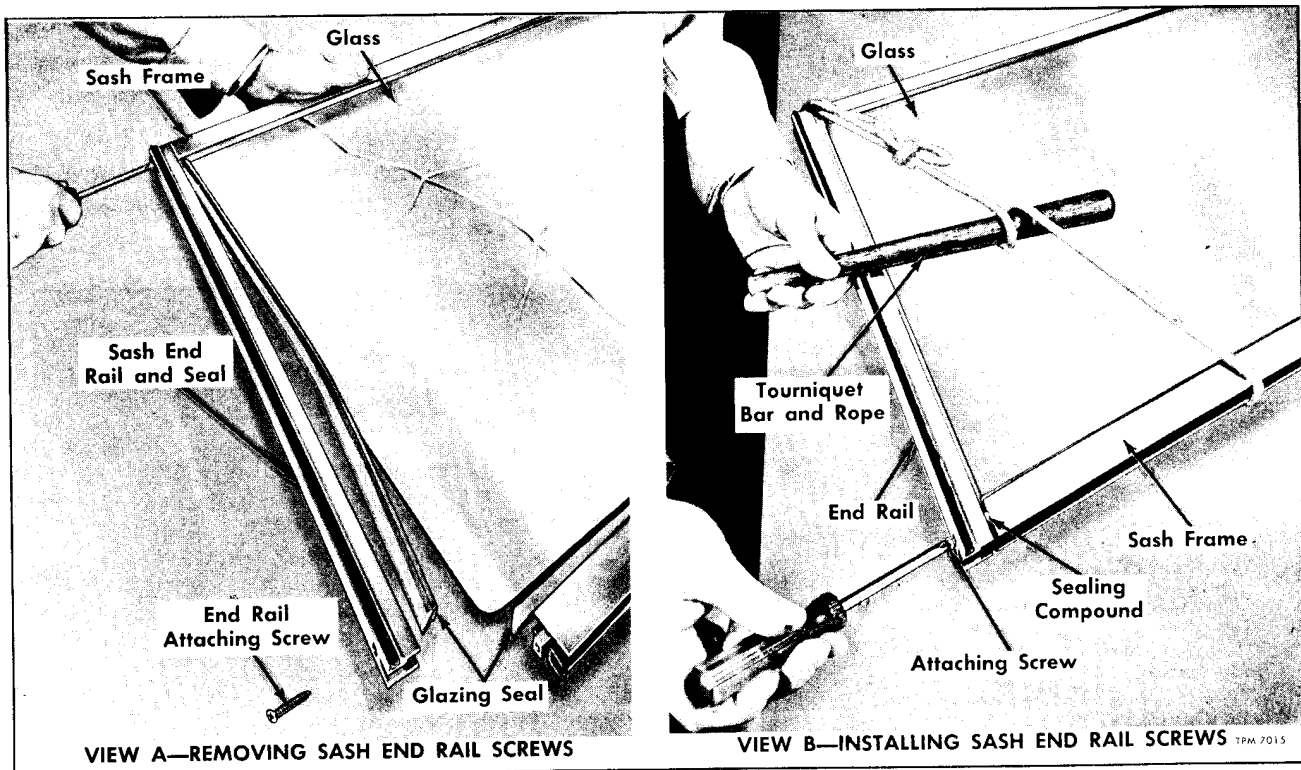

Figure 11—Replacing Sliding Section Glass (Typical)
4. To disassemble sash and glass sections remove screw (View A, fig. 11) at upper and lower end of section vertical-slanting end rail. Remove end rail, then carefully remove broken glass and glazing rubber from sash.
3. Using a strong cord as a tourniquet to press sides of frame into position as shown in View B, figure 11, install vertical-slanting end rail to sash with attaching screws.